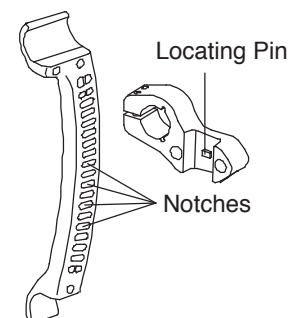

Figure 55
3. Reposition the camber mount clamp to the desired height, making sure that locating pin on the inside of the clamp is secured inside one of the notches on the vertical axle clamp. See Figure 55. Note that the notches in the vertical axle plate spaced in approximately 5/16" increments.